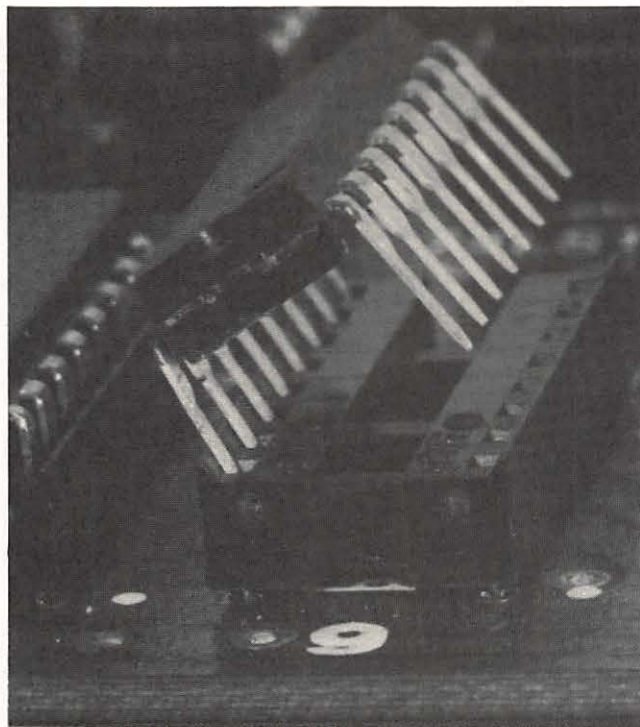

Fig. 1-14. Place the chip over the socket as shown.
- b. Place the chip over the socket, lining up one row of pins with its socket holes, as shown in Fig. 1-14.